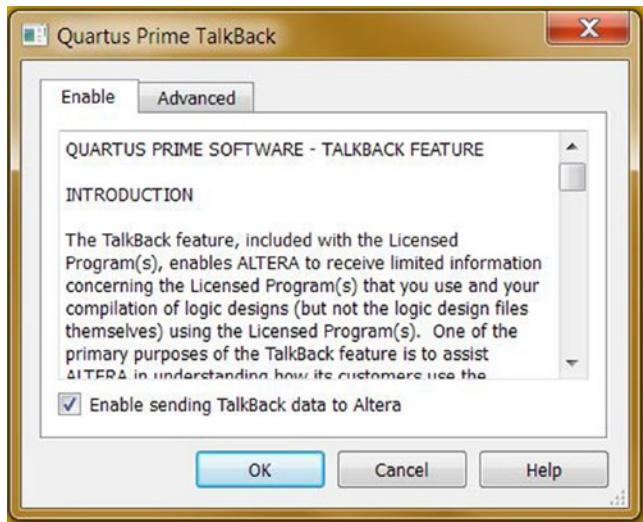

Figure 3-19. Quartus Prime TalkBack
8. In order to use the free edition, you need to enable sending TalkBack data to Altera (Figure 3-19). Check **Enable sending TalkBack data to Altera** and Click **OK**.